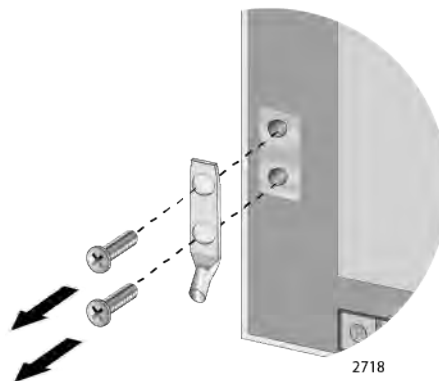

Figure 50. Removing the Grounding Lug
2. Remove the two screws that secure the grounding lug to the rear panel of the chassis, as shown in Figure 50.